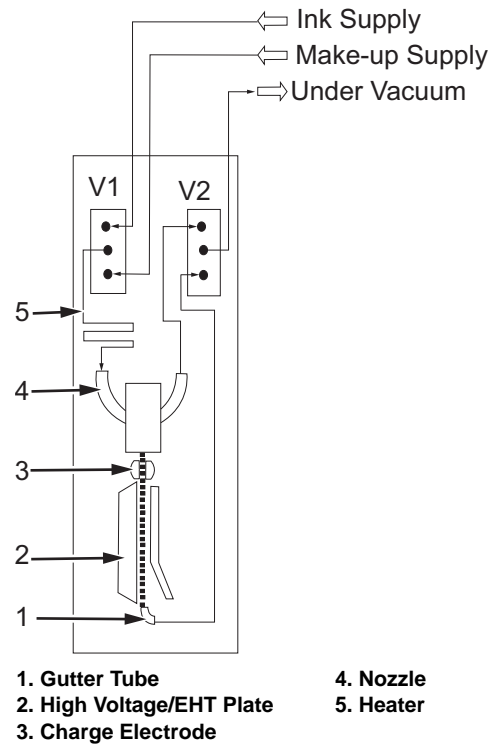

Figure 3-50: Printhead Operation
- 6 The ink drops enter the charge electrode (item 9) where they are charged at different voltage levels based on the character to be generated.
- 7 The charged ink drops then pass through the EHT/ High Voltage Field (item 2, Figure 3-50) and over the phase detectors.